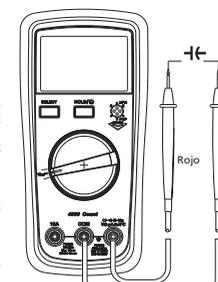

Fig. 3
6. CAPACITANCE MEASUREMENT (see fig. 3)